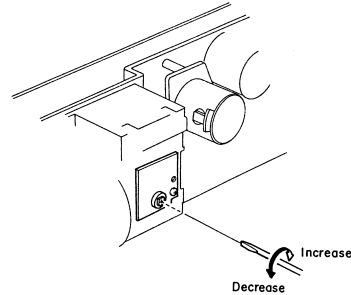

Fig. 4.31
- (e) Referring to Fig. 4.31, adjust the Tape Speed Adjustment Volume VR501 on the Speed Cal. P.C.B. Ass'y to obtain 3,000 Hz on the Frequency Counter.